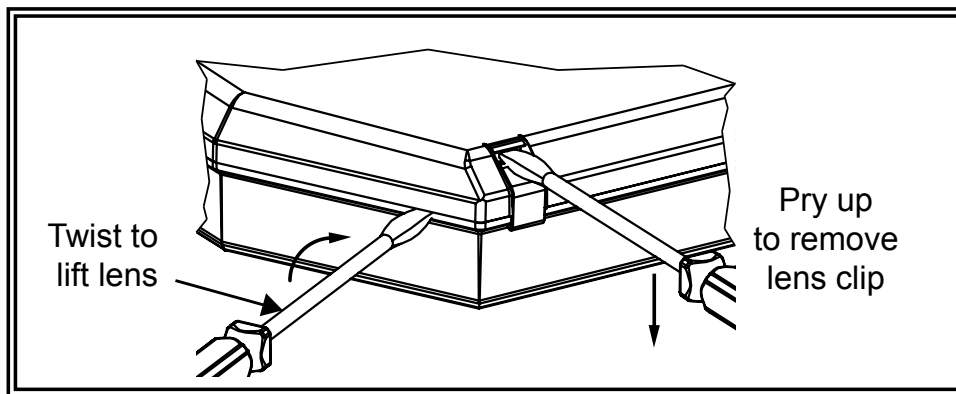

FIGURE 9
1. Uninstall the lens clips (4 per lens), as shown in FIGURE 9, using a flat blade screwdriver.
1. Remove screw(s) securing the light head assembly to the mounting plate. See FIGURE 9.